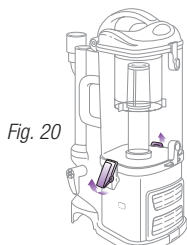

Fig. 20
- Undo the latches on the sides of the dust cup by lifting them up and outwards to remove the dust cup from the motor base. **(Fig. 20)**